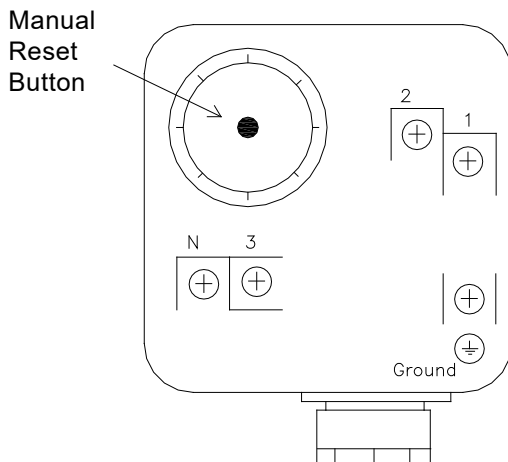

Figure 19: High/Low Gas Pressure Switch
12. If the high or low gas pressure switch tripped, it must be manually reset before the appliance can be restarted. (See Figure 19)